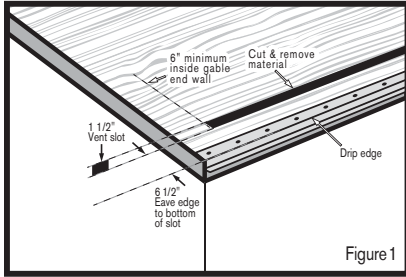

Figure 1
Step 4: Make marks on the roof 6" in from the gable end wall at each rake edge. The marks will identify the ends of the vent slot opening. See Figure 1.
second course of shingles 4 1/2" above the lower edge of this same shingle course. See Figure 1.